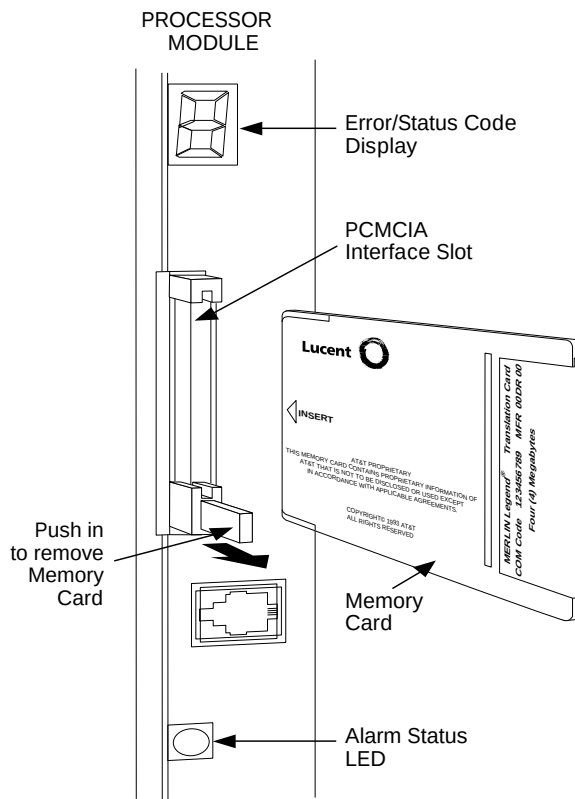

Figure 4-7. Inserting the Upgrade Memory Card
- 1. Insert an upgrade memory card containing the circuit module firmware into the PCMCIA interface slot on the processor board. See Figure 4-7.